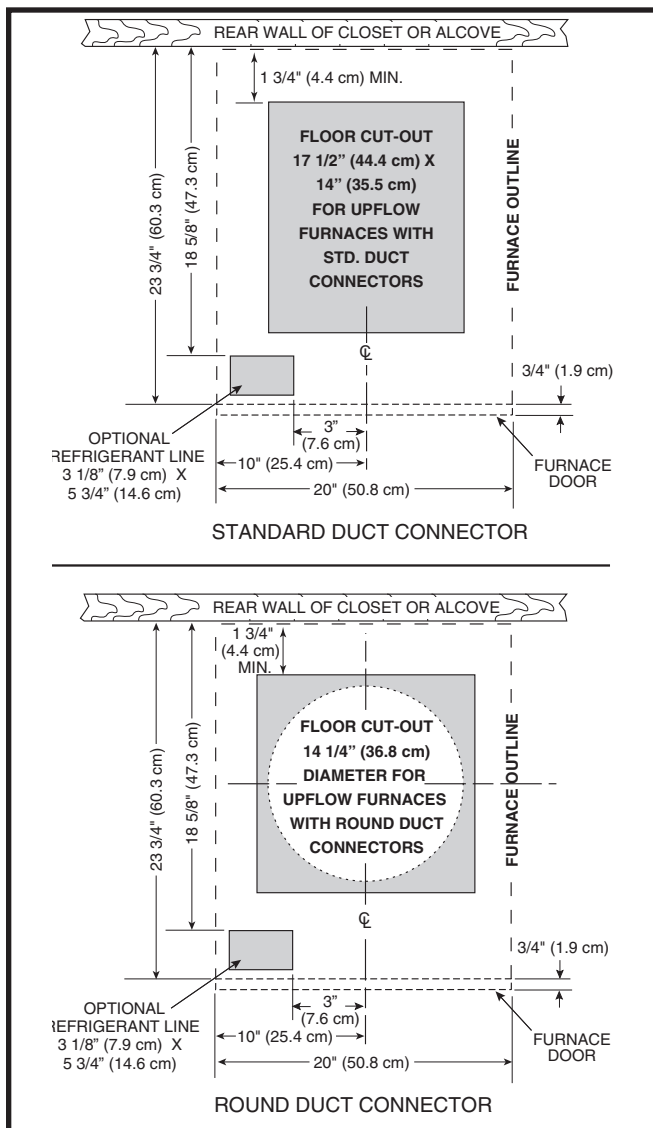
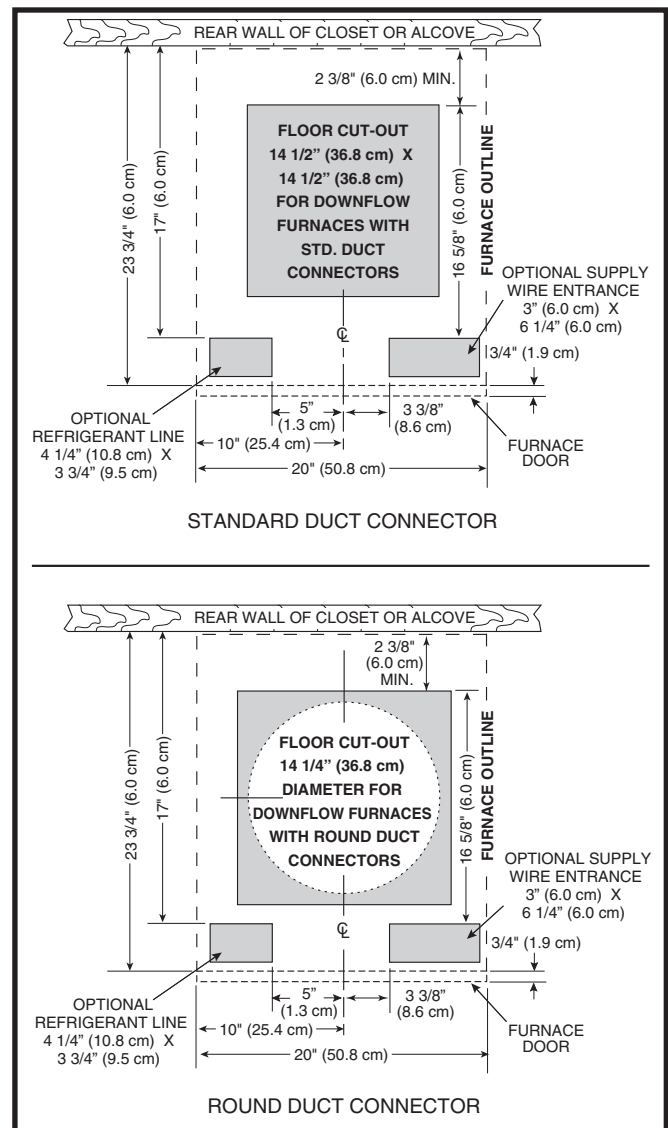

Figure 2. Cut-Out Dimensions for Upflow Appliances
Figure 3. Cut-Out Dimensions for Downflow Appliances
Floor cut-outs must be carefully located to avoid misalignment of the Appliance and air duct. Standard and round cutouts for upflow Appliances are shown in Figure 2 (page 6). The cutouts for downflow Appliances are shown in Figure 3 (page 6).
- Using the centerline as a starting point, draw the rest of the duct cut-out to the dimensions shown in Figure 2 or Figure 3.
- a. Mark floor openings as shown in Figure 2 \(page 6\). Provide minimum clearances at rear and left side walls of closet for installation of Appliance and wiring.